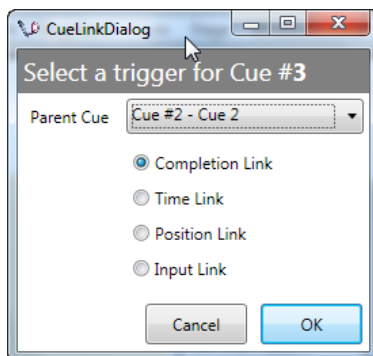

Figure 154
2. Select the **Parent Cue** from the drop down list and select **Completion Link**, then press **OK** (Figure 154).